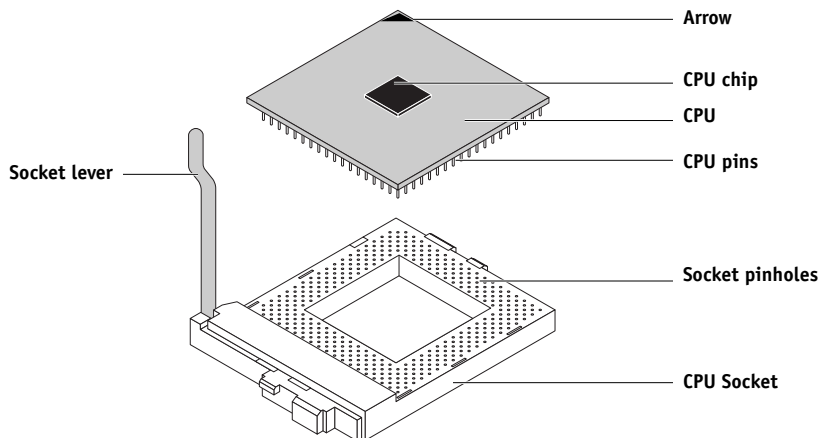

FIGURE 4-21 Replacing a CPU
2. **Insert the CPU into the socket. Make sure you align the arrow indicating pin 1 on the CPU with pin 1 in the CPU socket (see Figure 4-21).**